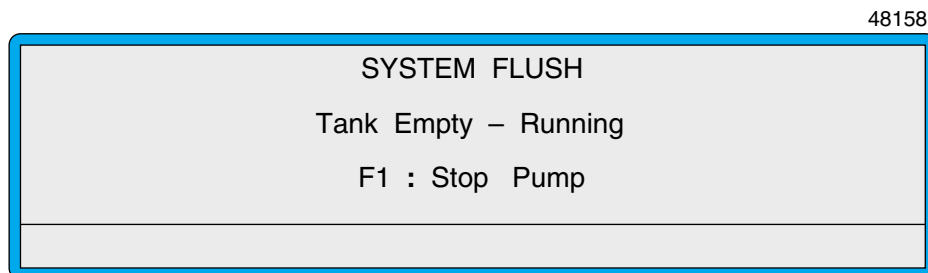

Figure 4. System Flush Screen (Stop Pump)
- 10 Press [F1] to start the pump. The pump will run at maximum pressure for 1 minute or until [F1] is pressed to stop the pump (this option appears on the screen while the pump is running). See figure 4: